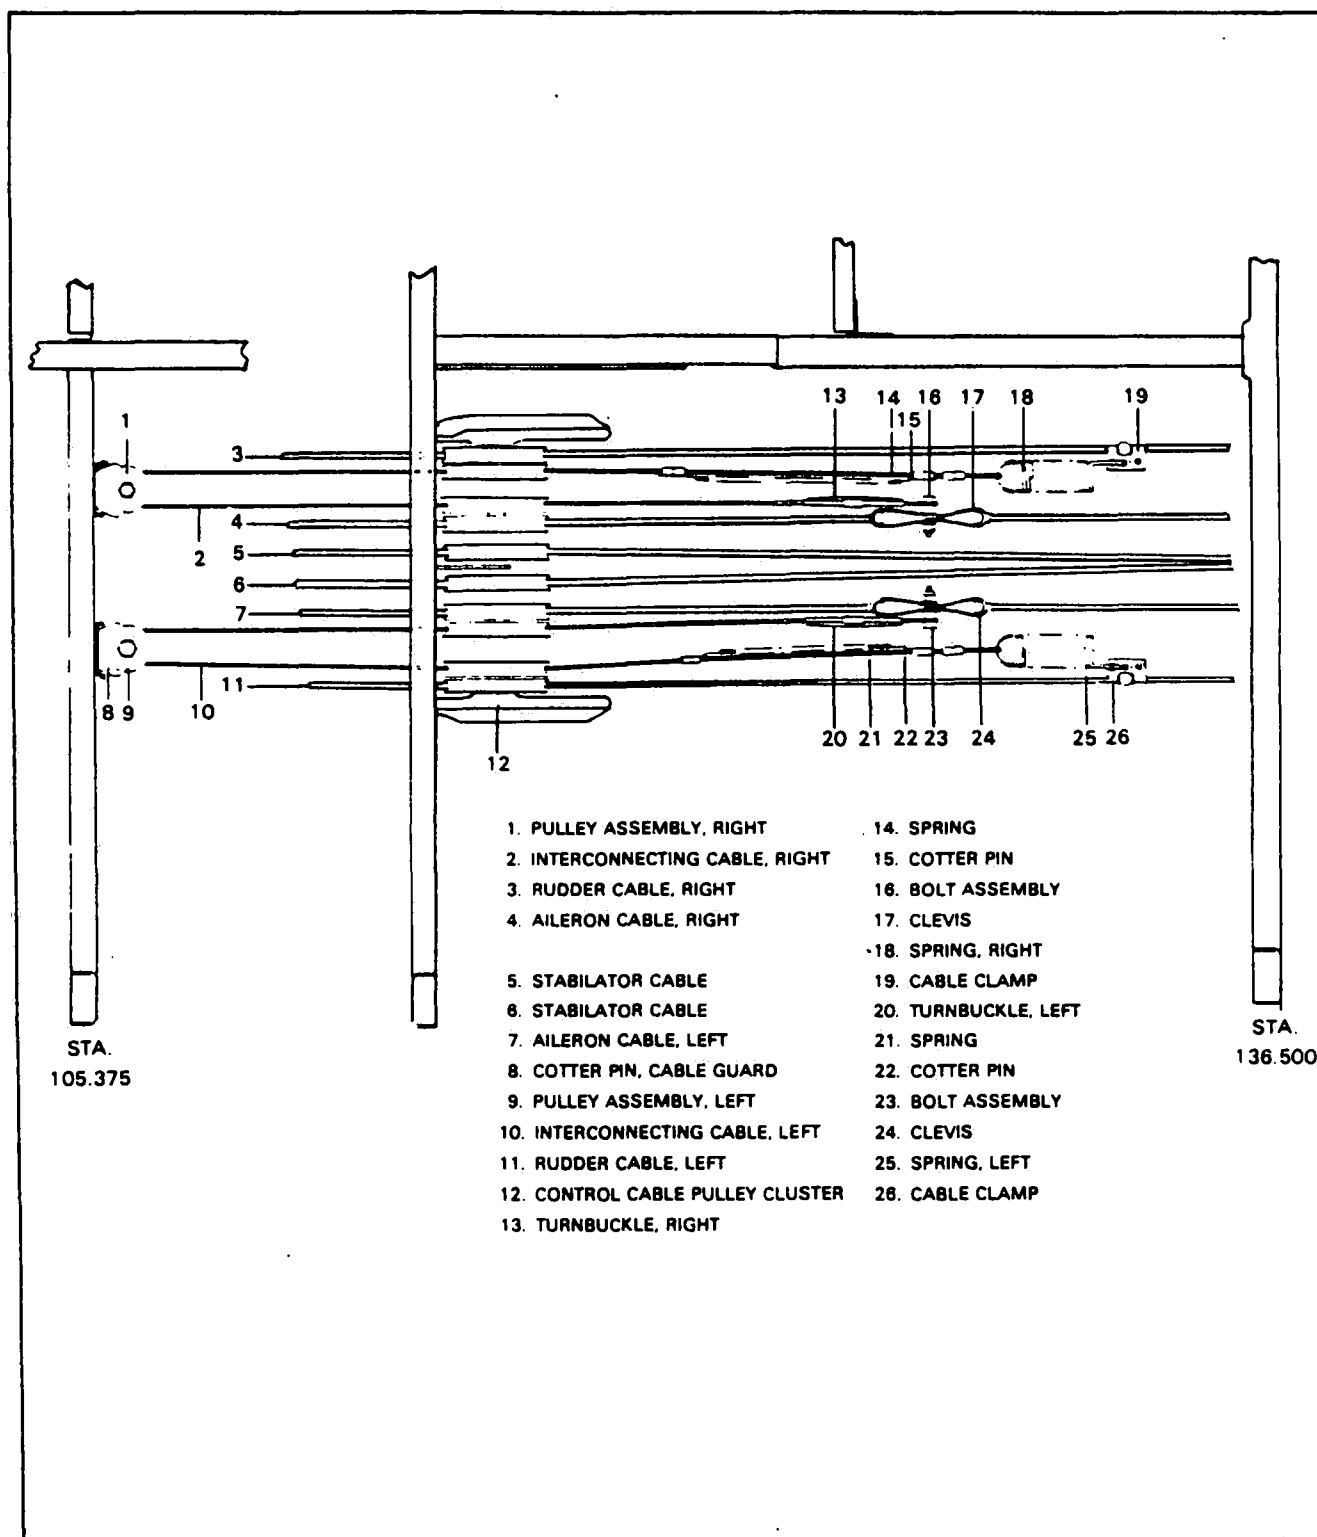
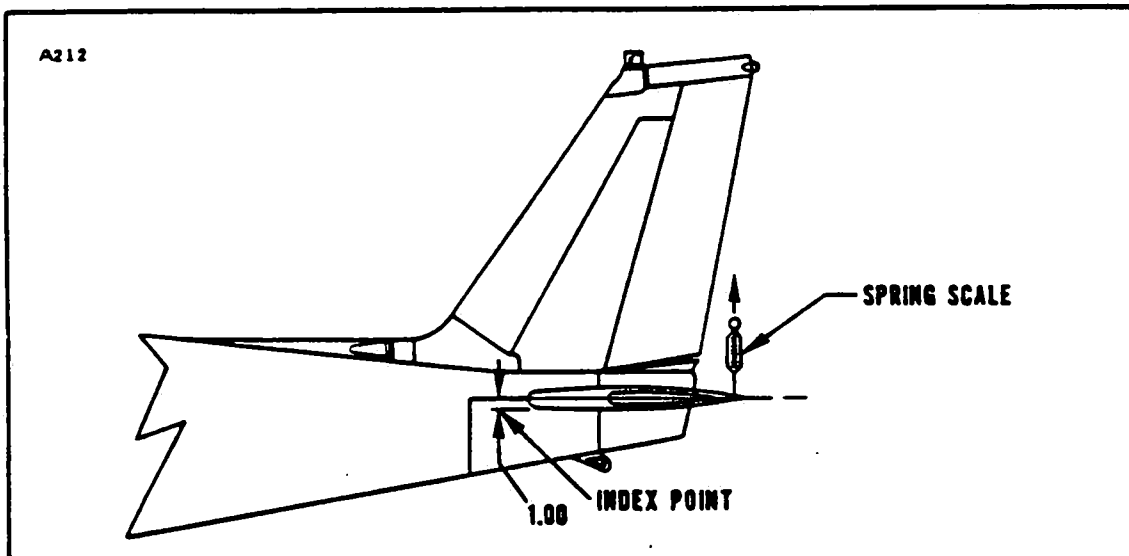

Figure 5-2. Interconnecting Control Cable Installation
Figure 5-3. Checking Stabilator Friction
**5-2. ADJUSTMENT OF INTERCONNECTING CONTROL CABLES.** (Refer to Figure 5-2.) Adjust the interconnecting control cables, located under the cabin floor to the left of the flap transmission between stations 105.375 and 136.500 by the following procedure:
f. Adjust the interconnecting cable turnbuckles (13) and (20) so the springs (18) and (25) have 0.06 inch extension with ailerons and rudder in neutral position.
g. If necessary the left interconnecting spring (25) extension may be increased up to a maximum of 0.38 inch to allow the aileron controls to spring back to neutral approximately equal amounts from the right and left stops with the rudder controls held in the neutral position.
**5-3. CHECKING STABILATOR FRICTIONAL RESISTANCE.** (Refer to Figure 5-3.)